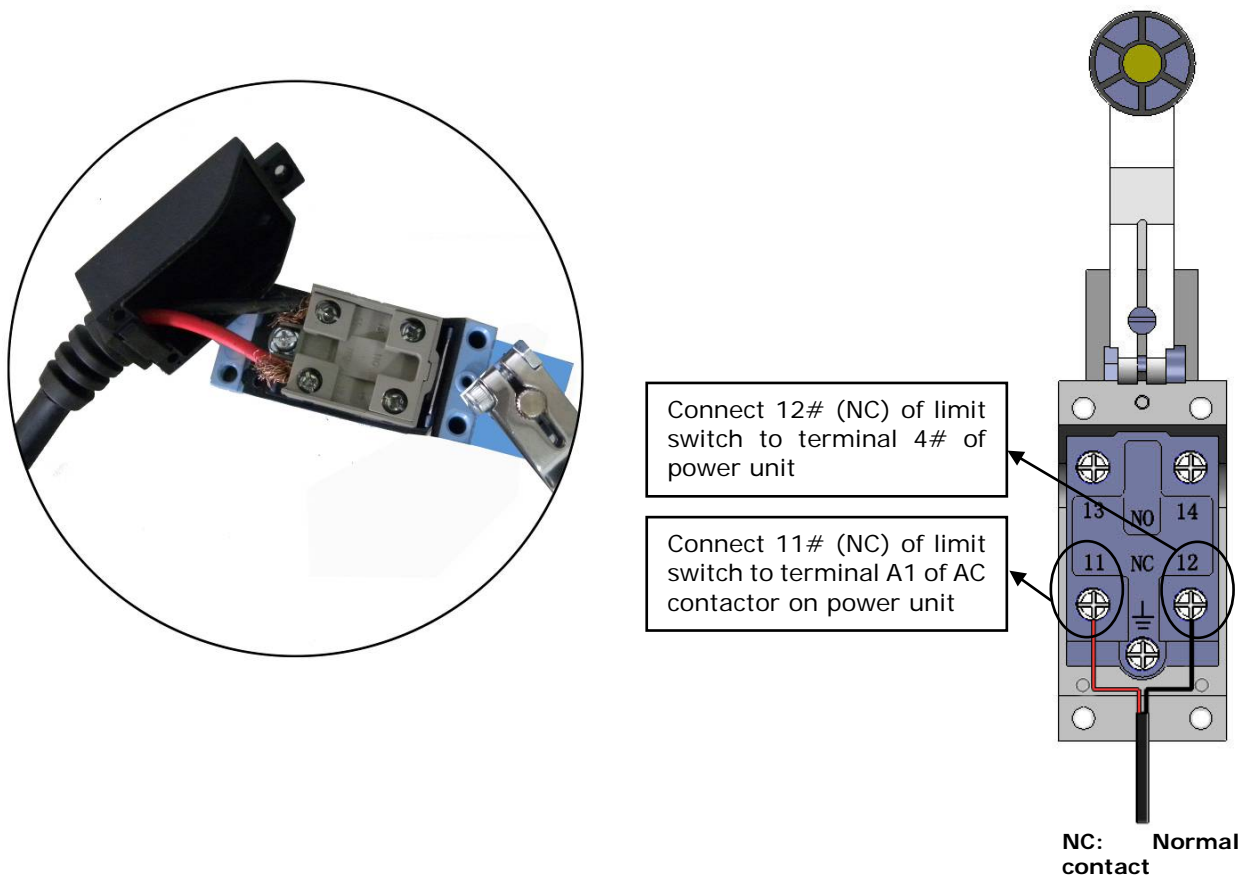

Fig. 32
2. Connecting the limit switch and cable wire (See Fig. 32).